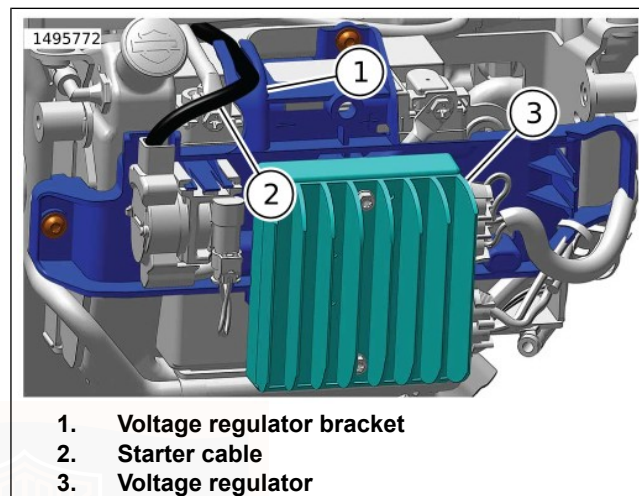

Figure 61. Negative Cable Bracket
- a. Figure 61 Route starter cable (2) in bracket (1).